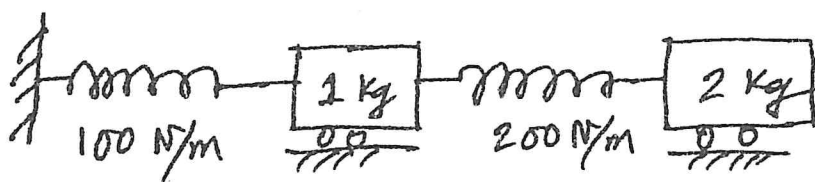

Figure 2(a)
2. (a) A two degrees of freedom undamped vibration system is shown in Fig. 2(a). For free vibration, determine the natural frequencies and amplitude ratios for the normal modes. (30)